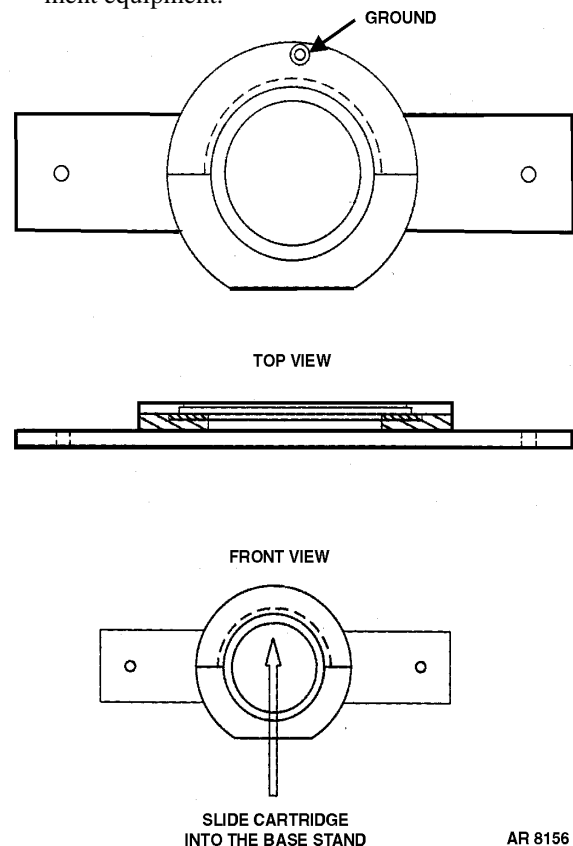
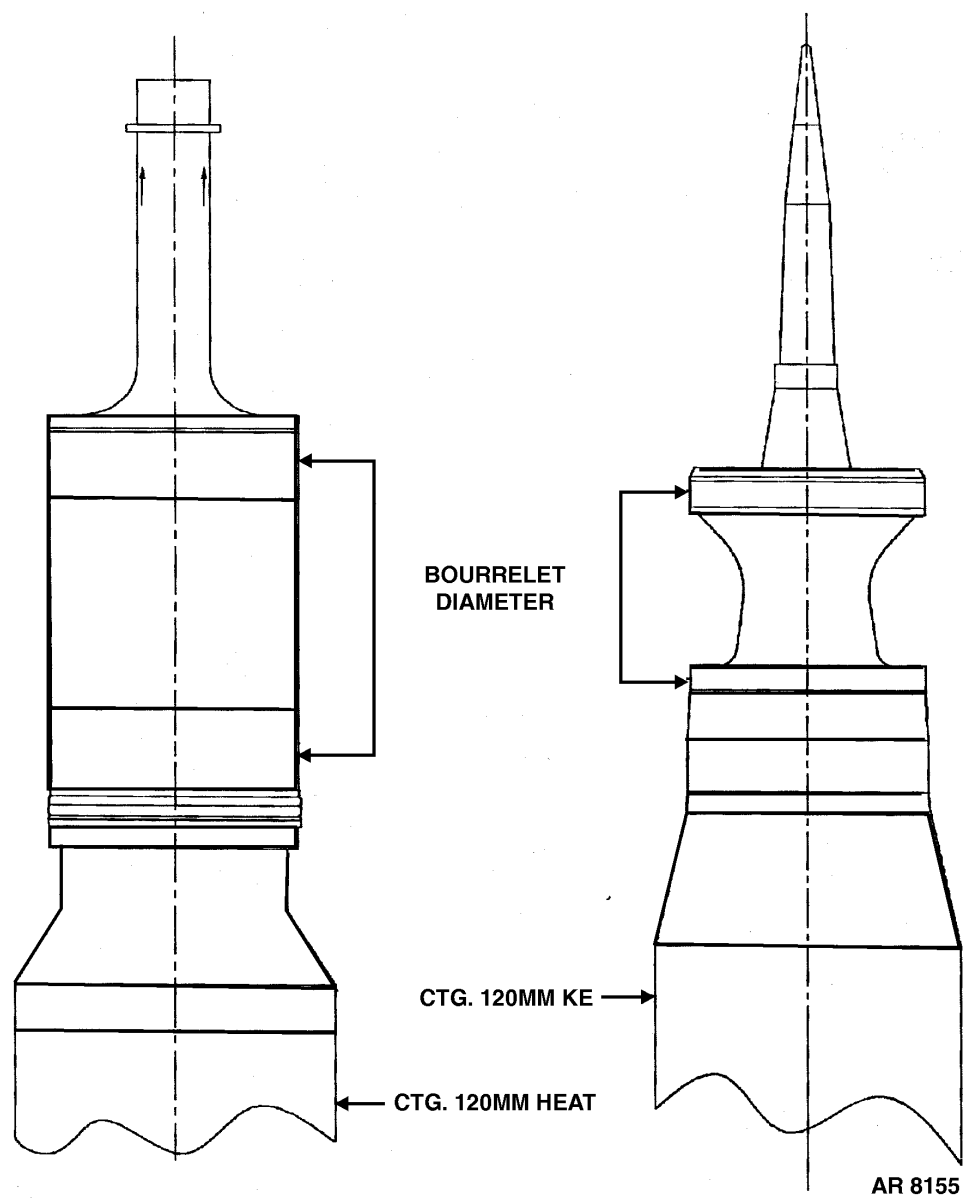

Figure 4-11. MPCG base stand.
Figure 4-12. Cartridge, 120mm KE/HEAT Bourrelet diameter.
- (1) Seat MPCG base stand (fig.4-11) on level ground for stabilization of cartridge. Fix base stand if necessary.
- (2) Ground base stand (screw provided).
- (3) Remove 120mm cartridge (fig.4-12) from shipping container.
- (4) Wipe 120mm cartridge completely with clean cloth, and inspect bourrelet diameter for presence of any burrs.